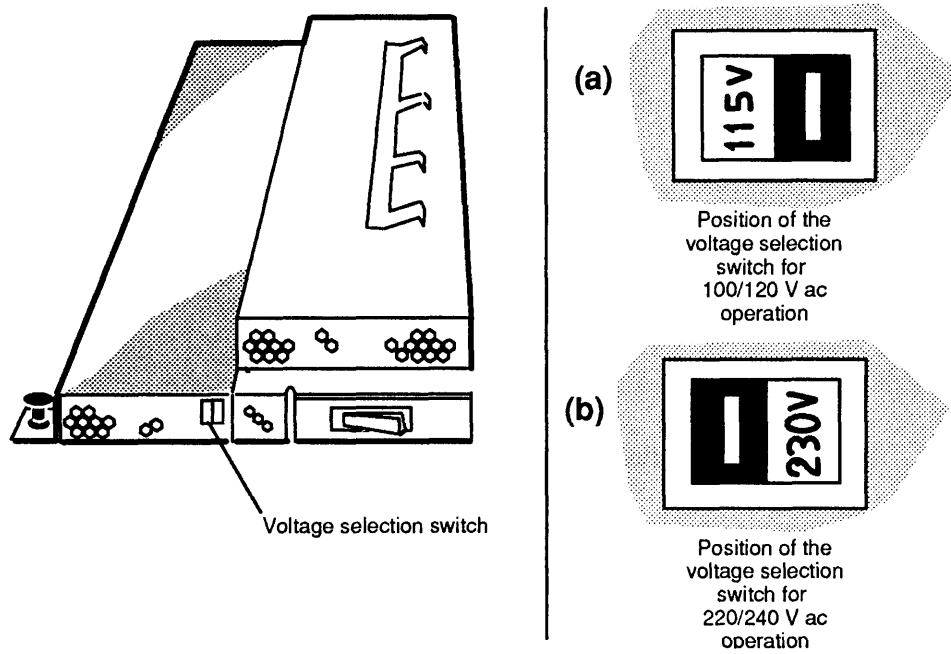

Figure 2-3 Verifying the Voltage Selection Switch Setting
4. Examine the voltage selection switch. If the installation site has 100-V or 120-V ac line voltage, make sure the switch is in the 115 V position as shown in Figure 2-3 (a). Most sites in the United States and Canada have 120 V ac power.
If the site has 220- or 240-V ac line voltage, make sure the switch is in the 230-V position as shown in Figure 2-3 (b).